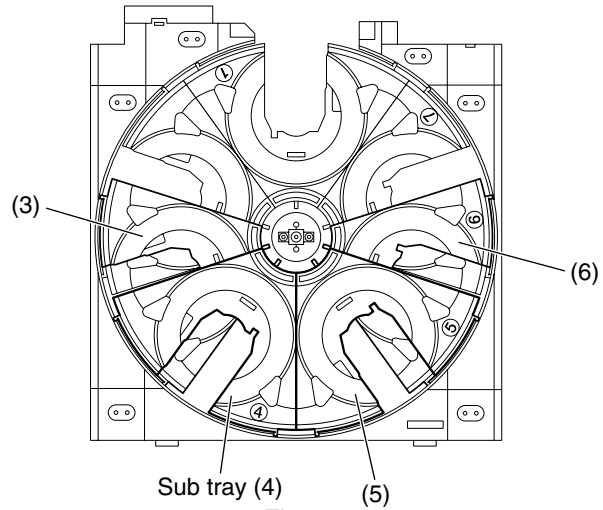

Fig.8
■ Removing the sub trays (See Fig.8 to 14)
- Prior to performing the following procedure, remove the main tray cover and the U/D cam (U).